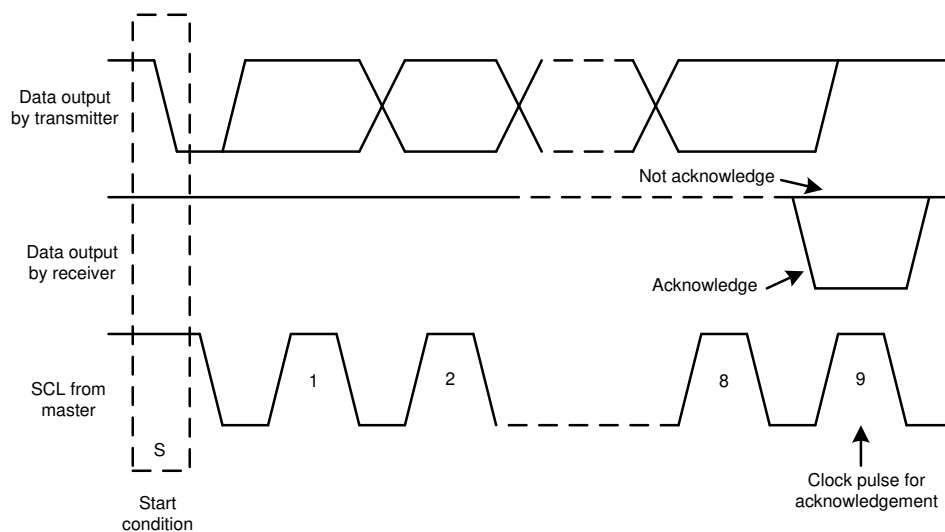
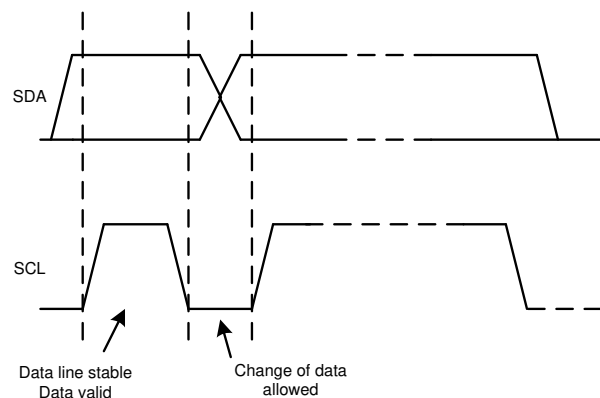

图 8-3. Acknowledge and Not Acknowledge on the I²C Bus
图 8-5. Bit Transfer on the I²C Bus
Other than specific timing signals, the I²C interface works with serial bytes. At the end of each byte, a ninth clock cycle generates and detects an acknowledge signal. An acknowledge is when the SDA line is pulled low during the high period of the ninth clock cycle. A not-acknowledge is when the SDA line is left high during the high period of the ninth clock cycle, as shown in 图 8-3.
2. The master then generates the SCL pulses, and transmits the 7-bit address and the read/write direction bit ($R/\overline{W}$) on the SDA line. During all transmissions, the master makes sure that data are valid. A valid data condition requires the SDA line to be stable during the entire high period of the clock pulse, as shown in 图 8-5. All devices recognize the address sent by the master and compare the address to the respective internal fixed address. Only the slave device with a matching address generates an acknowledge by pulling the SDA line low during the entire high period of the 9th SCL cycle, as shown in Figure 8-3. When the master detects this acknowledge, the communication link with a slave has been established.